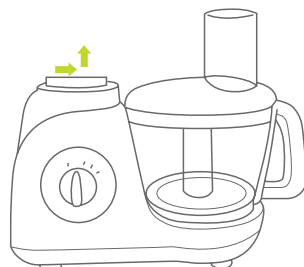

Fig. 15
3. Remove the protective cover. (Fig. 15)